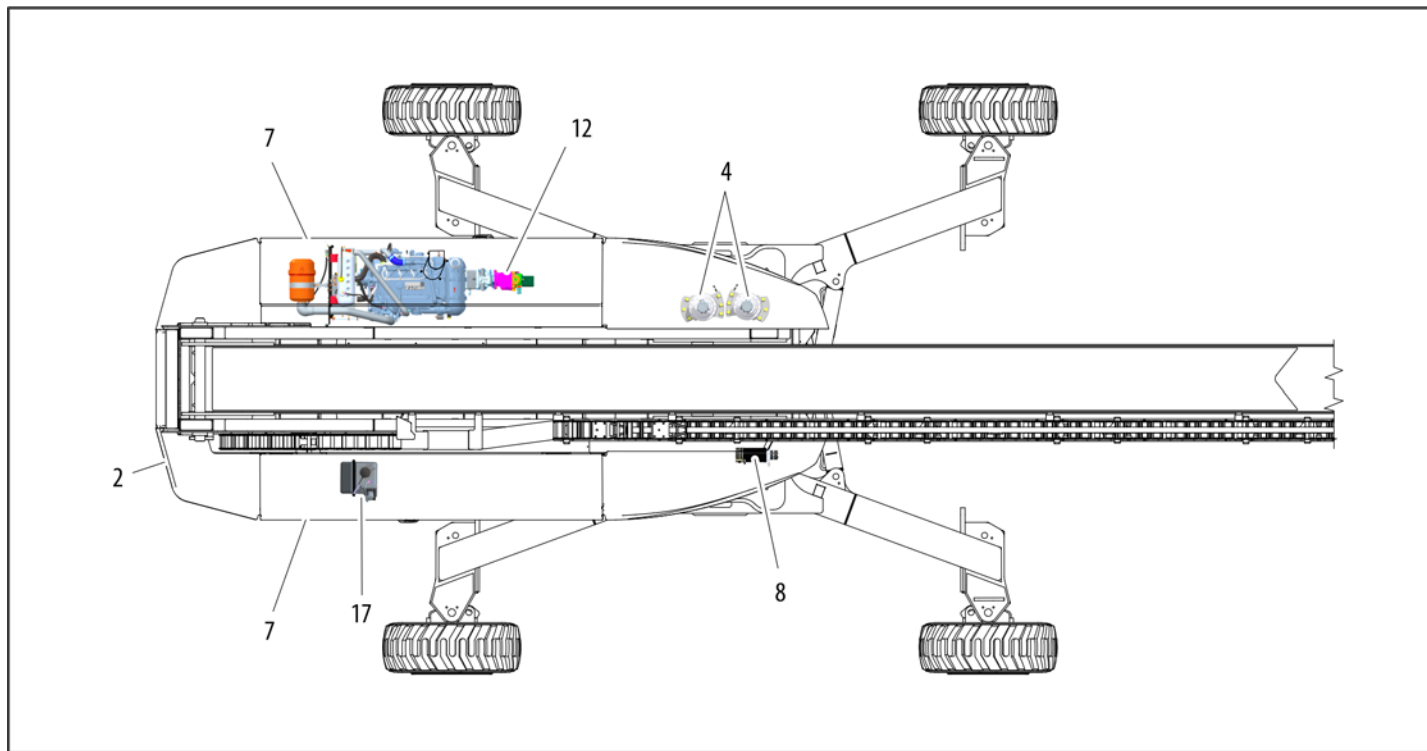

Figure 2-4. Daily Walk-Around Inspection - Sheet 1 of 5
5. **“Walk-Around” Inspection** – Refer to Figure 2-4.